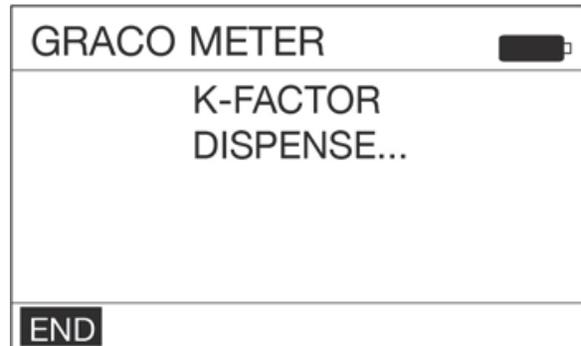

FIG. 16
**NOTE:** During the dispense the metered dispense valve will not display the volume dispensed. The volume dispensed is only determined by the flask measurement. A screen displays (FIG. 16) during the calibration dispense.